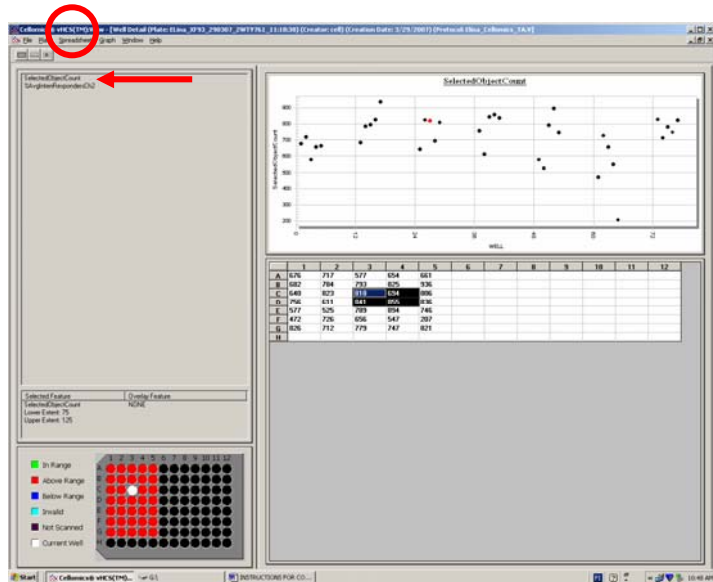

Figure 2. Well detail window
2. Again, a new window will appear (Fig. 2). On the output parameter list on the left (red arrow in Fig. 2), select %AvgIntenRespondersCh2 by clicking on the text. Now you will see the percentage of transfected cells in each scanned well. Write down the results.
3. Select the scanned wells by dragging the mouse over them in the spreadsheet on the right (the selected wells are shown in blue/black, see Fig. 2). In the main menu, select Spreadsheet (red circle in Fig. 2), then Cell details. Select AvgIntenCh2, and click ok.